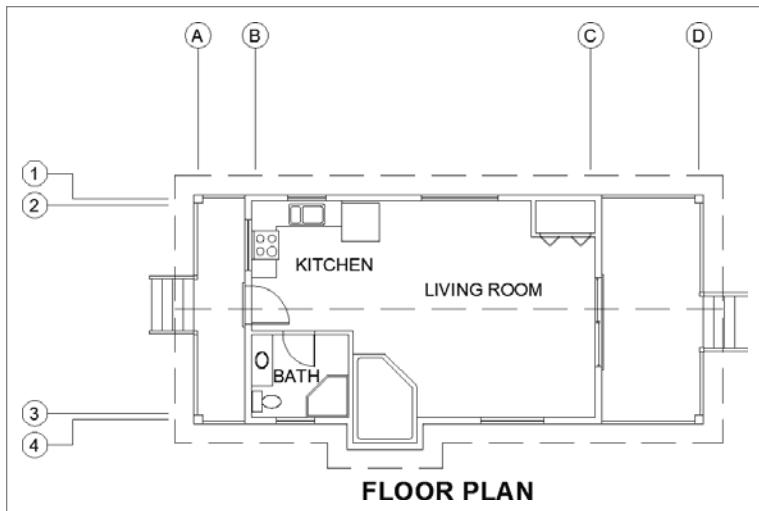

FIGURE 9.10 The grid with all symbols inserted
12. Continue repeating steps 8 through 10, but select the GRID-H block for the four grid symbols that run down the left side of the floor plan. The result should look like Figure 9.10.